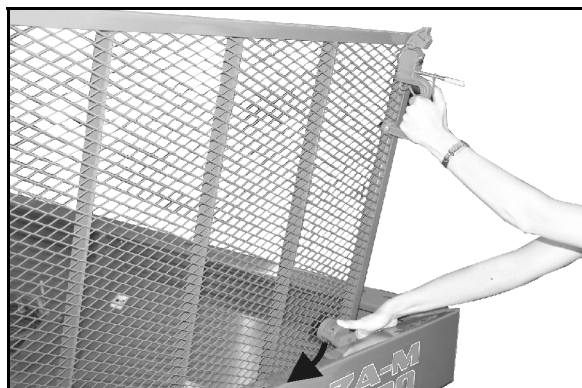

Fig. 18
3. Swing up guard screen until the lock on the edge of the hopper engages (Fig. 18)
- Before closing the guard screen, push down the lock (Fig. 18).